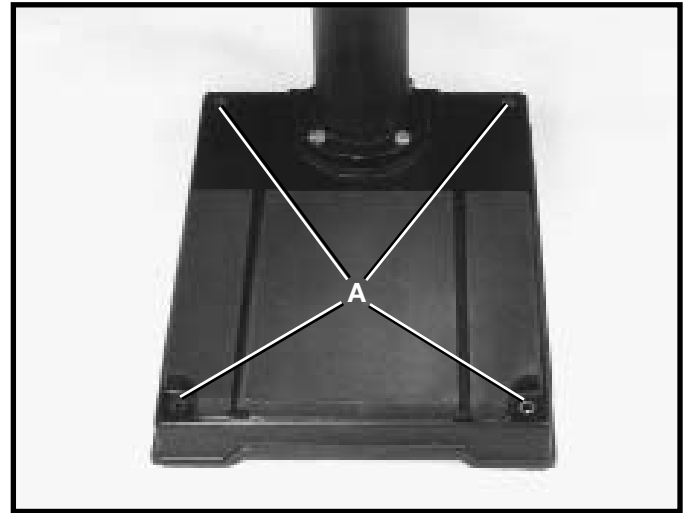
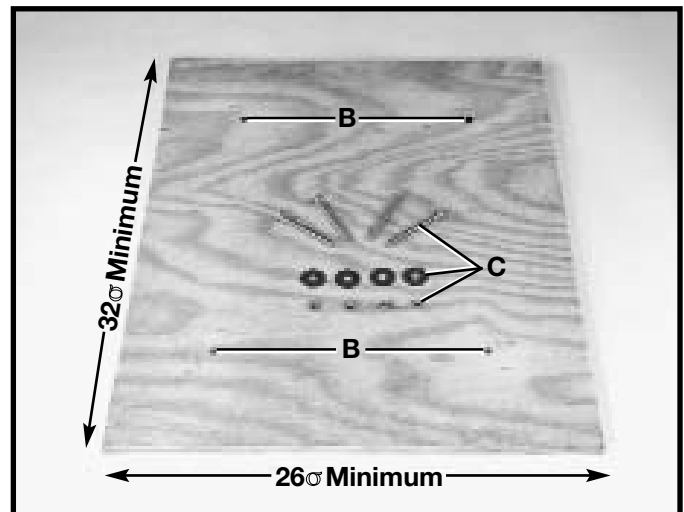

Fig. 16
Fig. 17
If your drill press is to be used in one permanent location, the drill press base must be secured to the supporting surface with fasteners through the four mounting holes, (A) Fig. 16, in the drill press base.
1. Drill four 3/8" diameter holes (B) Fig. 17, corresponding to the mounting holes (A) Fig. 16, of the drill press base in a 26" x 32" minimum size plywood board.
2. Fasten the drill press base to the mounting board using the carriage bolts, nuts, and washers (C) Fig.17, furnished with your drill press. The carriage bolt heads must be countersunk such that the bolt heads are flush with the bottom surface of the mounting board in order to guarantee the proper stability.